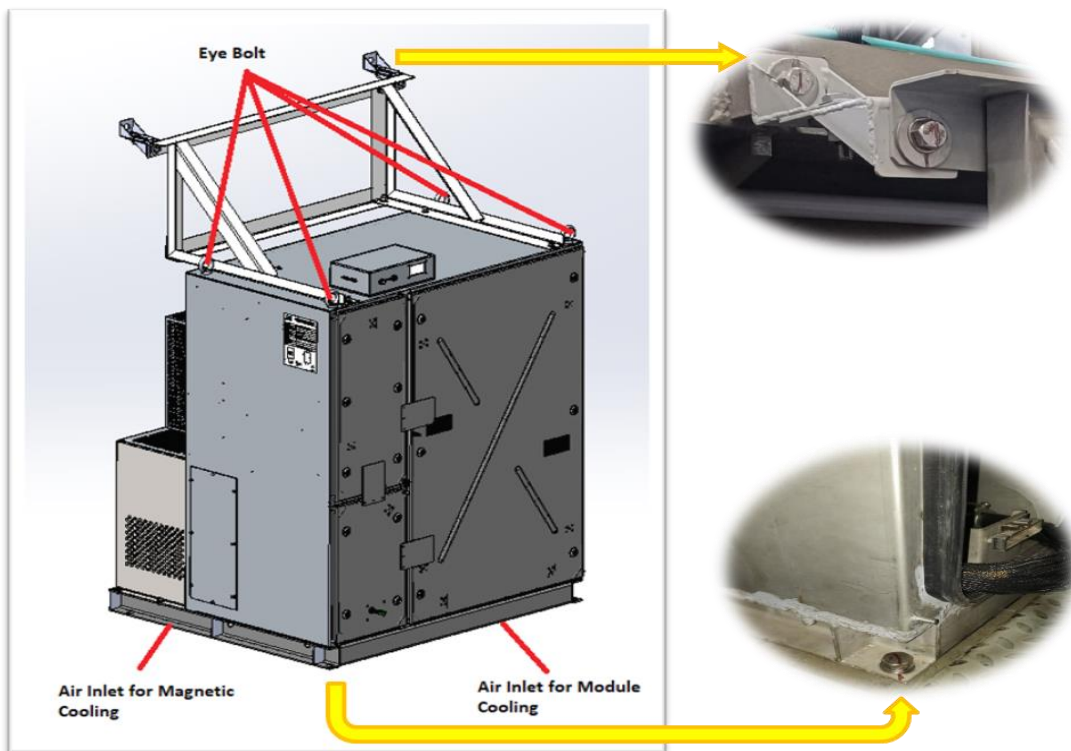
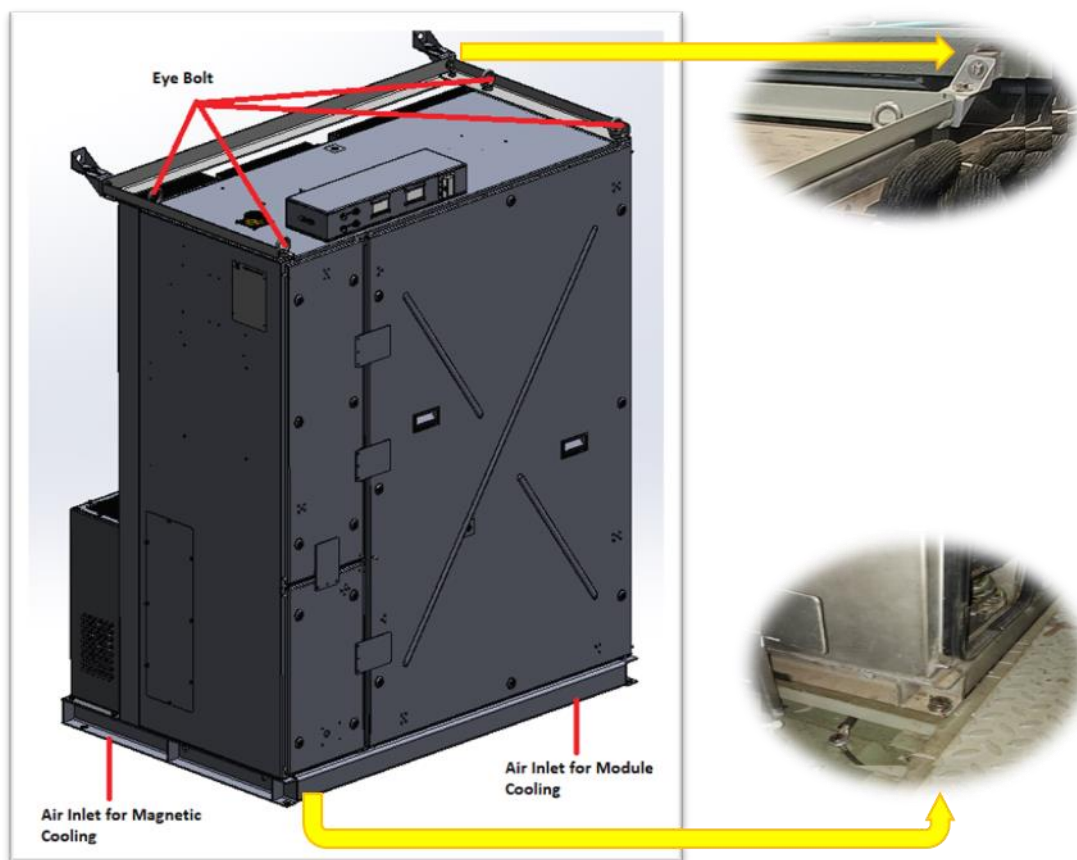

Fig 5.6: Base Bolt Mounting & Top Angle Brackets Mounting of Box1
Fig 5.7: Base Bolt Mounting & Top Angle Brackets Mounting of Box2
- **Fig 5.6** illustrates the fastening points for Box 1, and **Fig 5.7** shows the fastening points for Box 2.